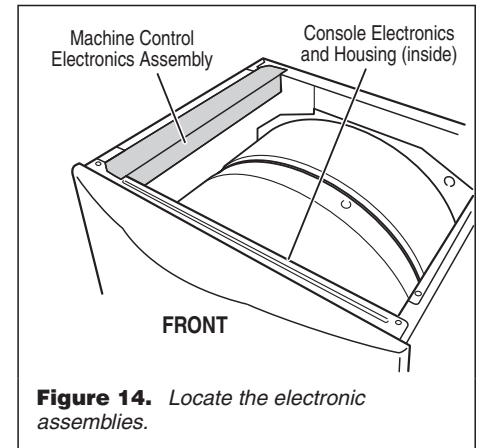

Figure 14. Locate the electronic assemblies.
2. Remove the top panel to access two electronic assemblies: the console electronics and housing; and the machine control electronics. See figure 14.